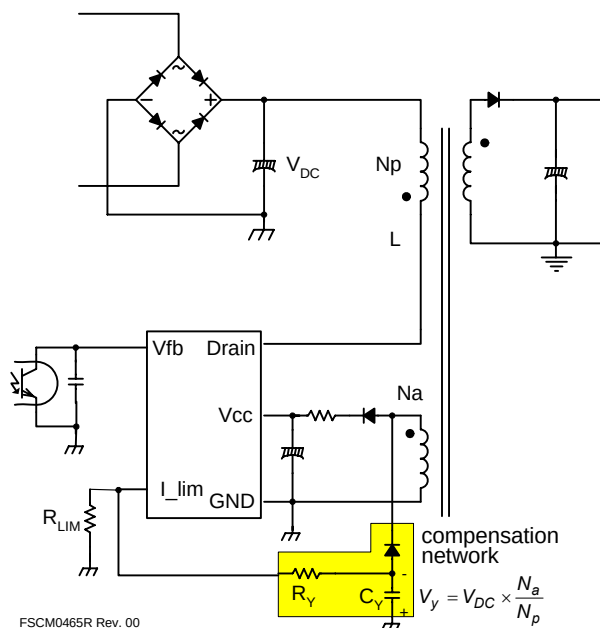

Figure 19. Constant power limit circuit
2.2 Constant Power Limit Circuit: Due to the circuit delay of FPS, the pulse-by-pulse limit current increases a little bit when the input voltage increases. This means unwanted excessive power is delivered to the secondary side. To compensate, the auxiliary power compensation network in Figure 19 can be used. R_{LIM} can adjust pulse-by-pulse current by absorbing internal current source (I_{FB} : typical value is 0.9mA), depending on the ratio between resistors. With the suggested compensation circuit, additional current from I_{FB} is absorbed more proportionally to the input voltage (V_{DC}) and achieves constant power in wide input range. Choose R_{LIM} for proper current to the application, then check the pulse-by-pulse current difference between minimum and maximum input voltage. To eliminate the difference (to gain constant power), R_V can be calculated by: